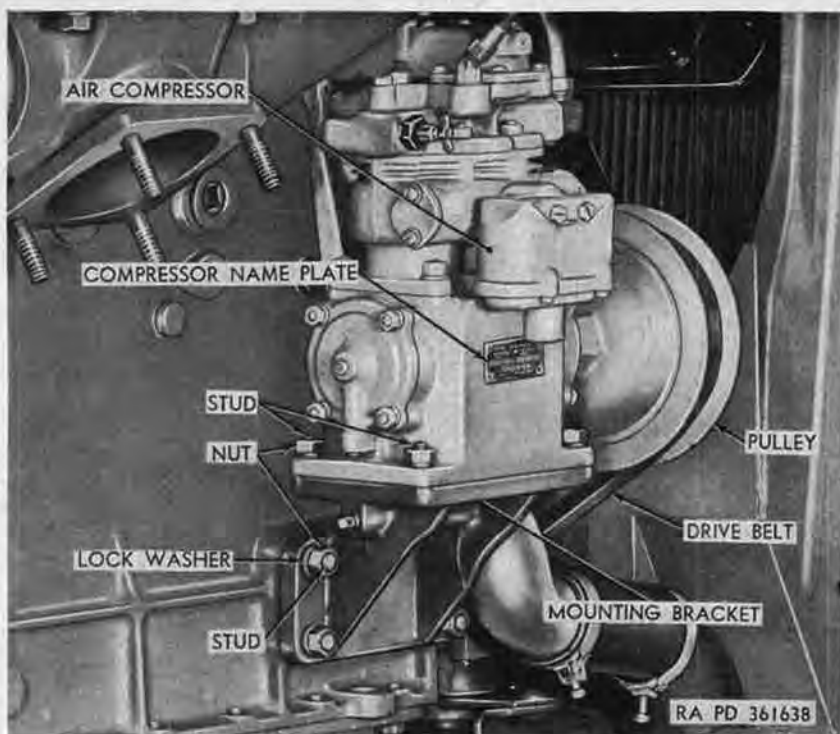

Figure 154. Air compressor mounting.
- (b) Remove four nuts (fig. 154) and lockwashers from compressor bracket mounting studs at front lower right side
- (4) *Install fan assembly.* Refer to paragraph 137.
- (5) *Install air compressor.*
- (a) Install new mounting bracket gasket on studs (fig. 154) at front lower right side of crankcase, and slide compressor and mounting bracket on studs.
- (b) Place drive belt (fig. 154) on compressor pulley, and install four washers and nuts on mounting bracket studs. Tighten nuts.